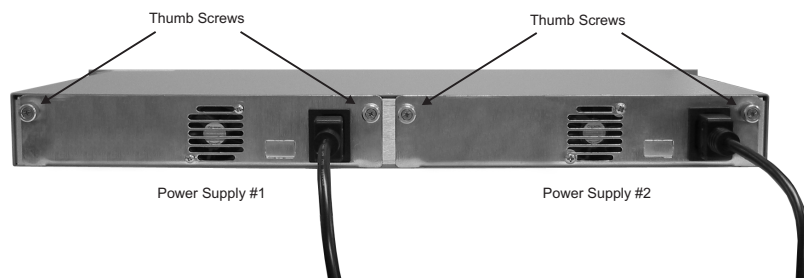

Fig. 5 5-Module Chassis with two Installed AC Power Supplies
- ☐ Using a screwdriver, loosen the 2 thumb screws securing the power supply to the main chassis (refer to Fig 5).